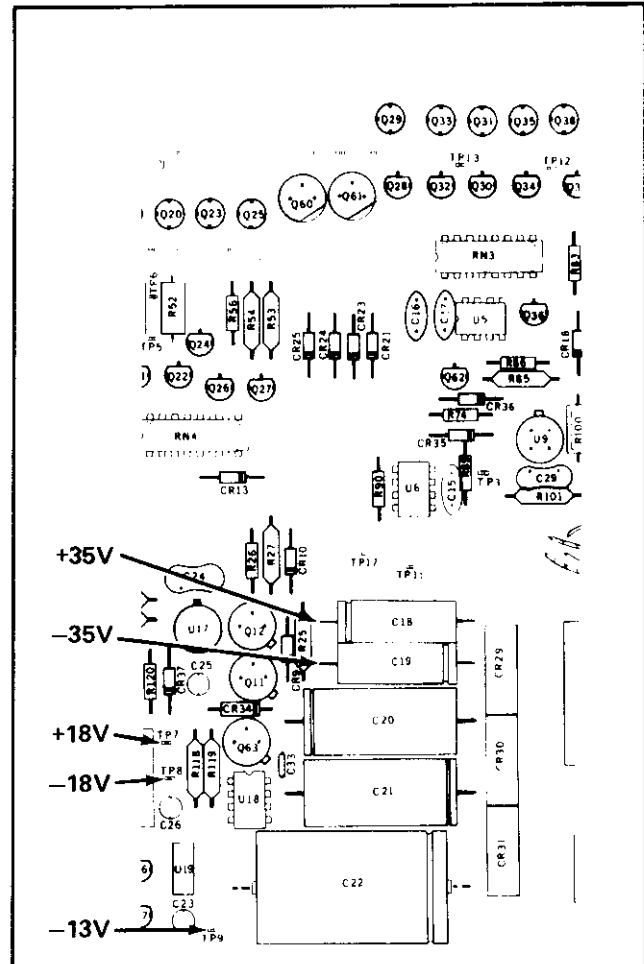

Figure 4-2. Power Supply Voltage Test Points
voltage output of each power supply. Figure 4-2 illustrates where the connections are to be made for checking each supply.
- Using a digital voltmeter (DVM) capable of reading 1V dc with 1 μ V resolution (Fluke Model 8400A, 8800A or equivalent) connect this low input lead to the 8810A LO INPUT terminal. Connect its high input to TP13 as shown in Figure 4-2.